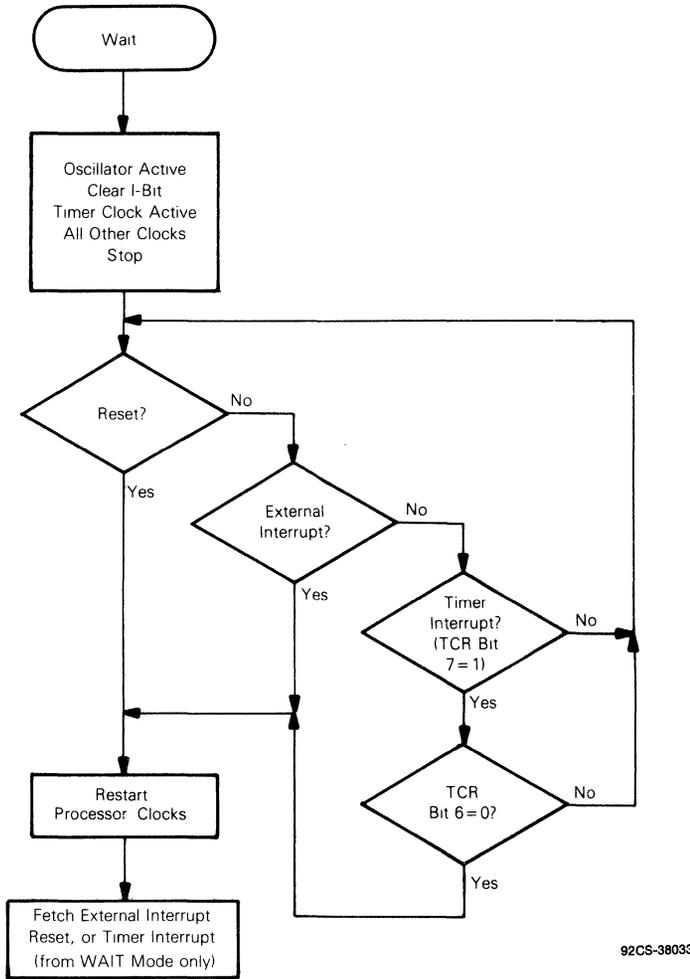

Fig. 18 - Wait function flowchart.
**WAIT** - The WAIT instruction places the CDP6805E2 in a low power consumption mode, but the WAIT mode consumes somewhat more power than the STOP mode; refer to Table 1. In the WAIT function, the internal clock is disabled from all internal circuitry except the Timer circuit, refer to Figure 18. Thus, all internal processing is halted